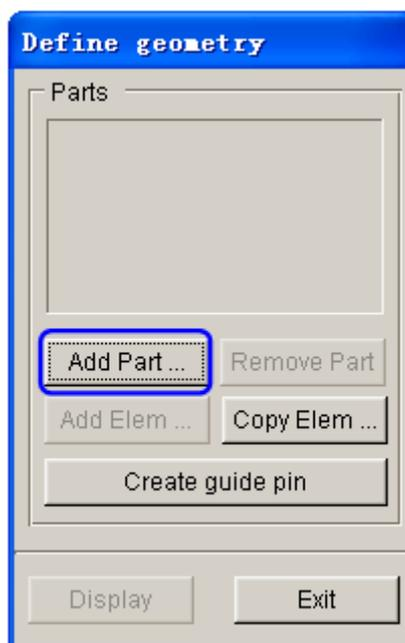

Figure 3.15 Define geometry dialog box
- The DEFINE GEOMETRY dialog box illustrated in Figure 3.15 is displayed. Next, click the **Add Part...** button in the dialog box.